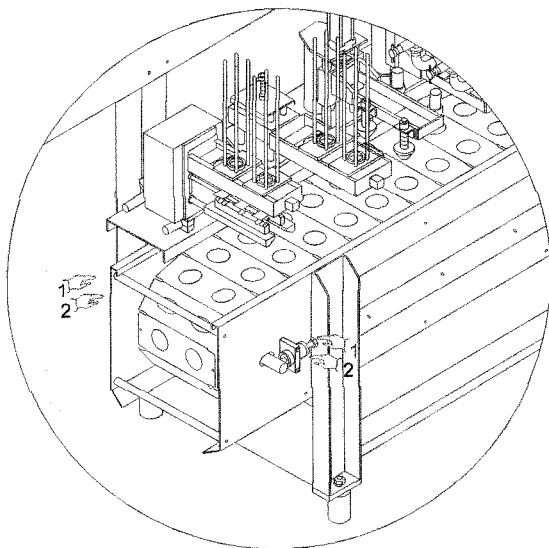

Fig.7.5
- 1 - Unscrew the lock-nut (*Pos.1, Fig.7.5*) and ad-
just the tensioning screw (*Pos.2, Fig.7.5*) until the correct working tension is obtained;
- 2 - Tighten the lock-nut (*Pos.1, Fig.7.5*).